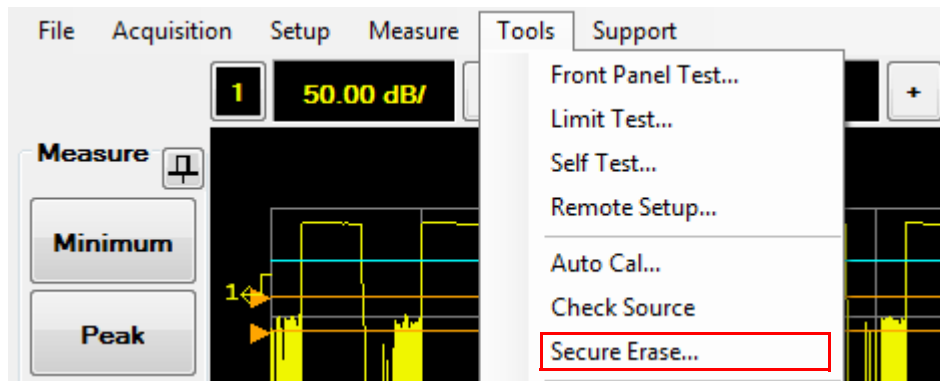

Figure 2-154 Secure Erase... selection in the Tools menu
- 1 Select **Tools > Secure Erase...** on the toolbar as shown in Figure 2-154.